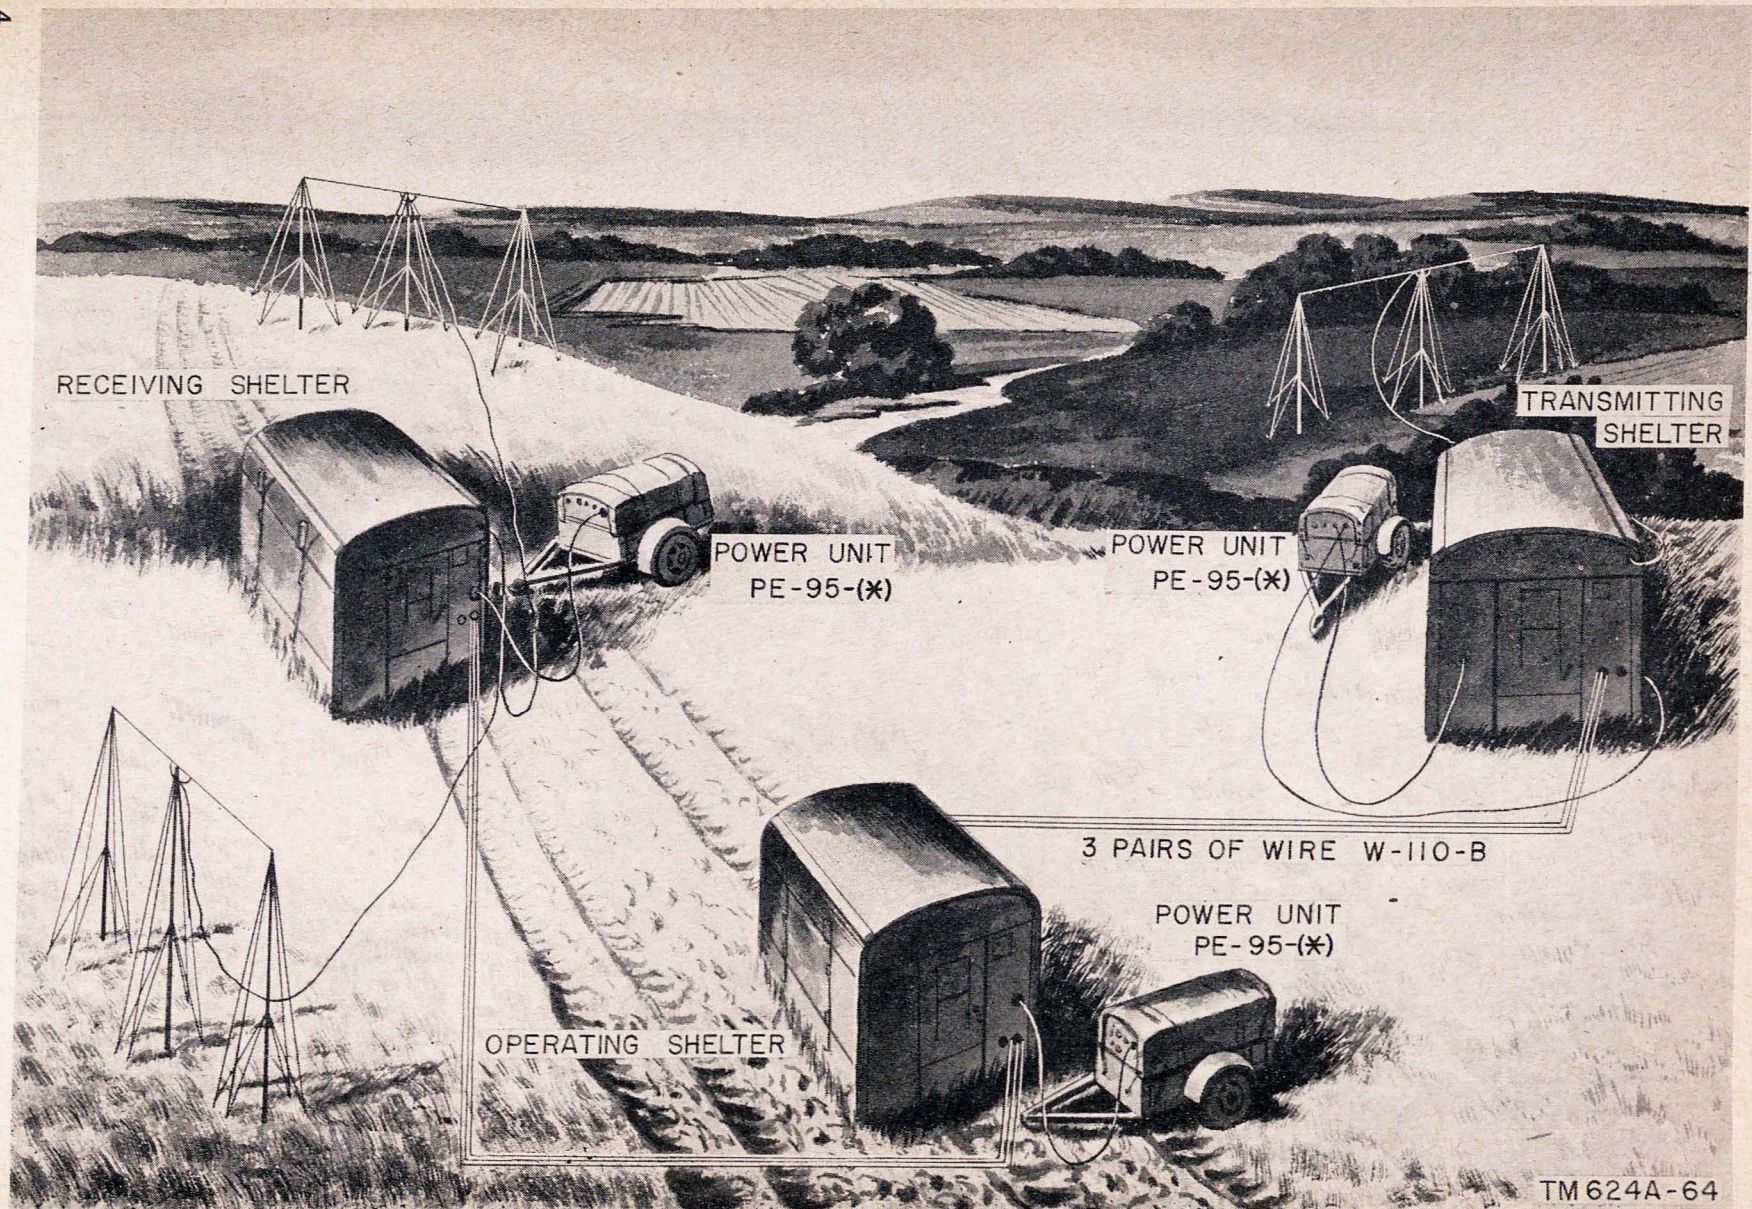

Figure 1. Radio Set AN/MRC-2(\*)
*a.* This technical manual contains instructions for the installation, operation, and maintenance of Radio Sets AN/MRC-2C and AN/MRC-2D (fig. 1). Detailed theory and field maintenance instructions are included for Amplifiers AM-141A/MRC and AM-141B/MRC and Junction Boxes JB-70-A and JB-70-B. In addition to these instructions, there is an appendix containing a table of components.
a. Radio Set AN/MRC-2(\*) is a high-powered radioteletype station with a transmitter power output of approximately 2 kilowatts (kw) and capable of operating over a frequency range of 2 to 18 megacycles (mc). Figure 1 shows this radio set arranged for use as a semipermanent station.